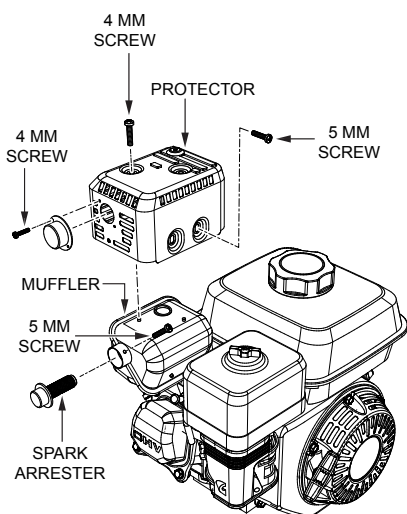

Figure 25. Spark Arrester Removal
1. Remove the 4 mm screws (3) from the exhaust deflector, then remove the deflector (Figure 25).
2. Remove the 5 mm screws (4) from the muffler protector, then remove the muffler protector.